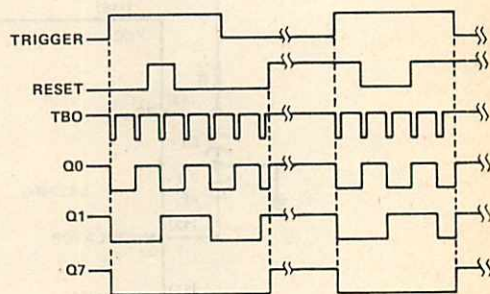

FIGURE 5—TIMING DIAGRAM OF OUTPUT WAVEFORMS
Figure 5 shows voltage waveforms for typical operation of the μ A2240C. If both reset and trigger inputs are low during power-up, the timer/counter will be in a reset state with all binary (Q) outputs high and the oscillator stopped. In this state, a high level on the trigger input starts the time-base oscillator. The initial negative-going pulse from the oscillator sets the Q outputs to low logic levels at the beginning of the first time-base period. The μ A2240C will ignore any further signals at the trigger input until after a reset signal is applied to the reset input. With the trigger input low, a high level at the reset input will set Q outputs high and stop the time-base oscillator. If the reset signal occurs while the trigger input is high, the reset is ignored. If the reset input remains high when the trigger input goes low, the μ A2240C will reset.